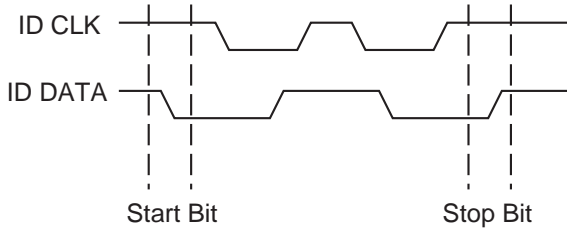

Figure 6-6
4. Once all data are received, the mainframe sends a stop command. The stop command consists of a low-to-high transition of the IDDATA line while the IDCLK line is held high (see Figure 6-6).